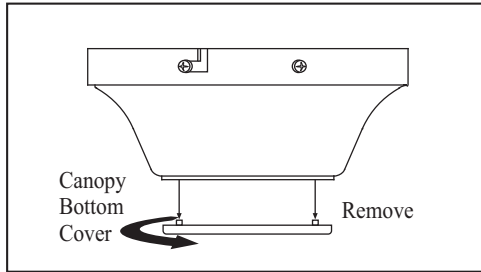

Figure 11
- Remove the decorative canopy bottom cover from the canopy by turning the canopy bottom cover counterclockwise (Figure 11).